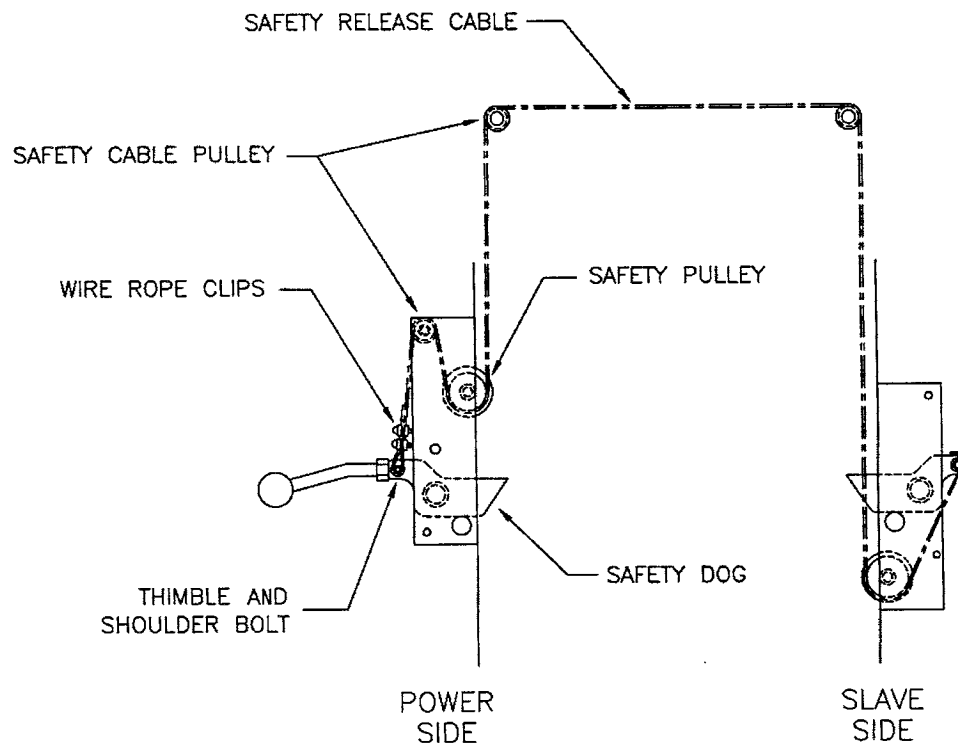

Figure 12 – Safety Release Cable Routing and Adjustment
2. Refer to **Figure 12** for safety release cable routing. The end of the cable that has a collar attaches to the slave side safety dog. The free end is fixed to the power side safety dog using two (2) wire rope clips.
7. Guide the cable up under the large pulley and then over the small pulley towards the safety dog. Wrap the cable around the thimble (attached to the safety dog with a 3/8" x 1 1/2" lg. shoulder bolt) and then clamp it using two (2) wire rope clips. Do not tighten fully at this stage.